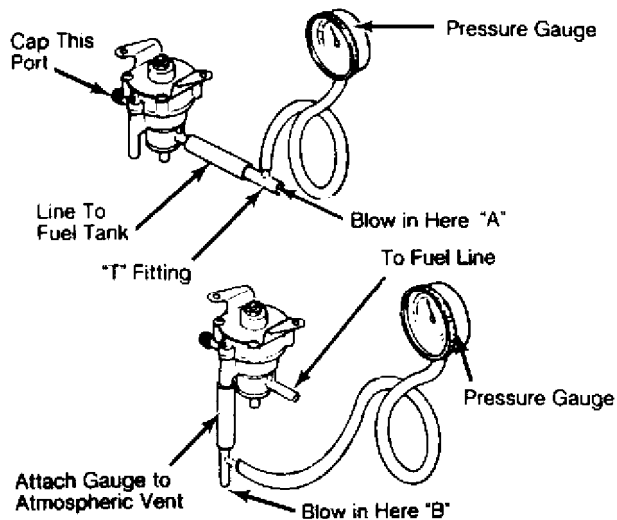

Fig. 70: Testing Check & Cut Valve
1) Remove check and cut valve. Connect pressure gauge with "T" fitting to check and cut valve nipple leading to fuel tank. Cap opposite nipple. See Fig. 70.